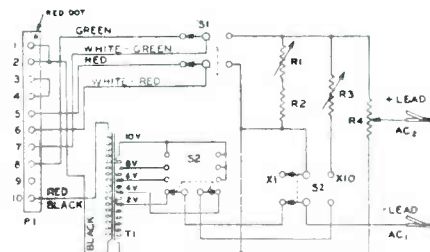

Fig. 5—Schematic of selenium rectifier tester Model 49R.
The manner in which L1 produces a relationship between Ep and Eg which is exactly 90° is shown in Fig. 5. This is in contrast to the almost 90° relationship of Fig. 3. In Fig. 5 we observe an equivalent circuit at (A) and its corresponding vector diagram at (B). Note that without L1 the resultant voltage E would be equal to IR. However, with L1 producing IXL, the voltage at the grid Eg, which is now made up of the resultant of IR and IXL, is now exactly 90° out of phase (in quadrature) with E as shown in (B).
A photograph of the Selenium Rectifier Testing accessory is shown in Fig. 2. Fig. 5 is a schematic of the same unit. It is designed to test selenium rectifiers rated from 25 to 300 volts with current ratings of from 20 to 650 ma. Once installed, it may be left in place permanently without disturbing the tube testing function of the basic unit.